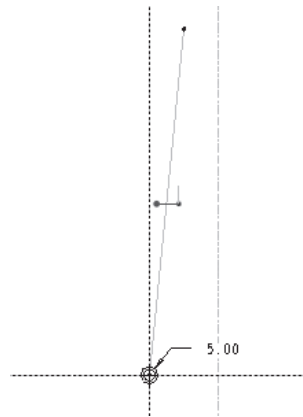

Figure 8-84 Sketch of the section with dimensions
- d. Draw the section of the spring using the sketcher tools and dimension it, see Figure 8-84.
8. Draw the section of the spring such that the center of the circle coincides with the intersection of the two perpendicular lines and dimension it as shown in Figure 8-84.